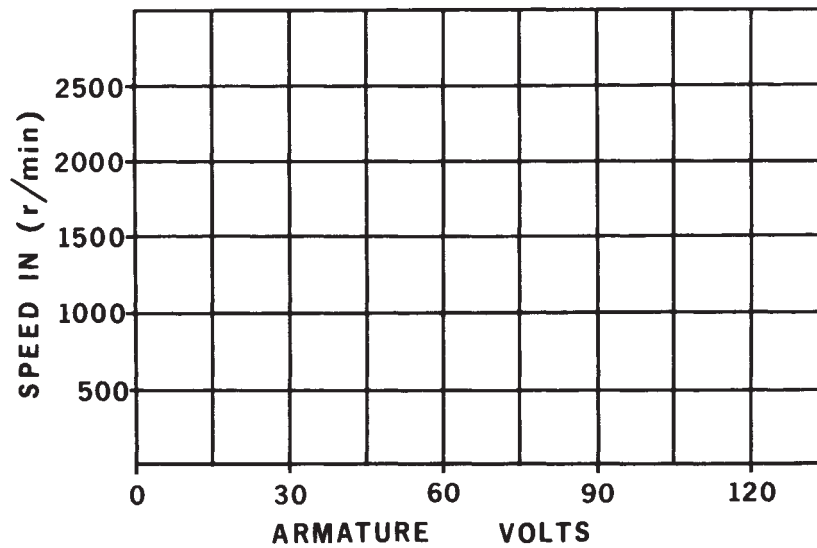

Figure 3-6.
- d. Plot each of the points from Table 3-1 on the graph shown in Figure 3-6. Draw a smooth curve through your plotted points.